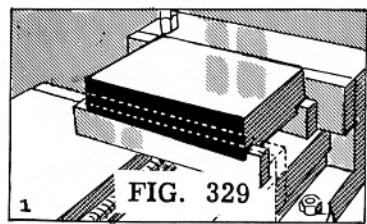

FIG. 329
2. The work can be supported on tapered parallels in the vise and a cut taken across the piece in the usual manner (Fig. 329). This method is usually used for slight angles or tapers.